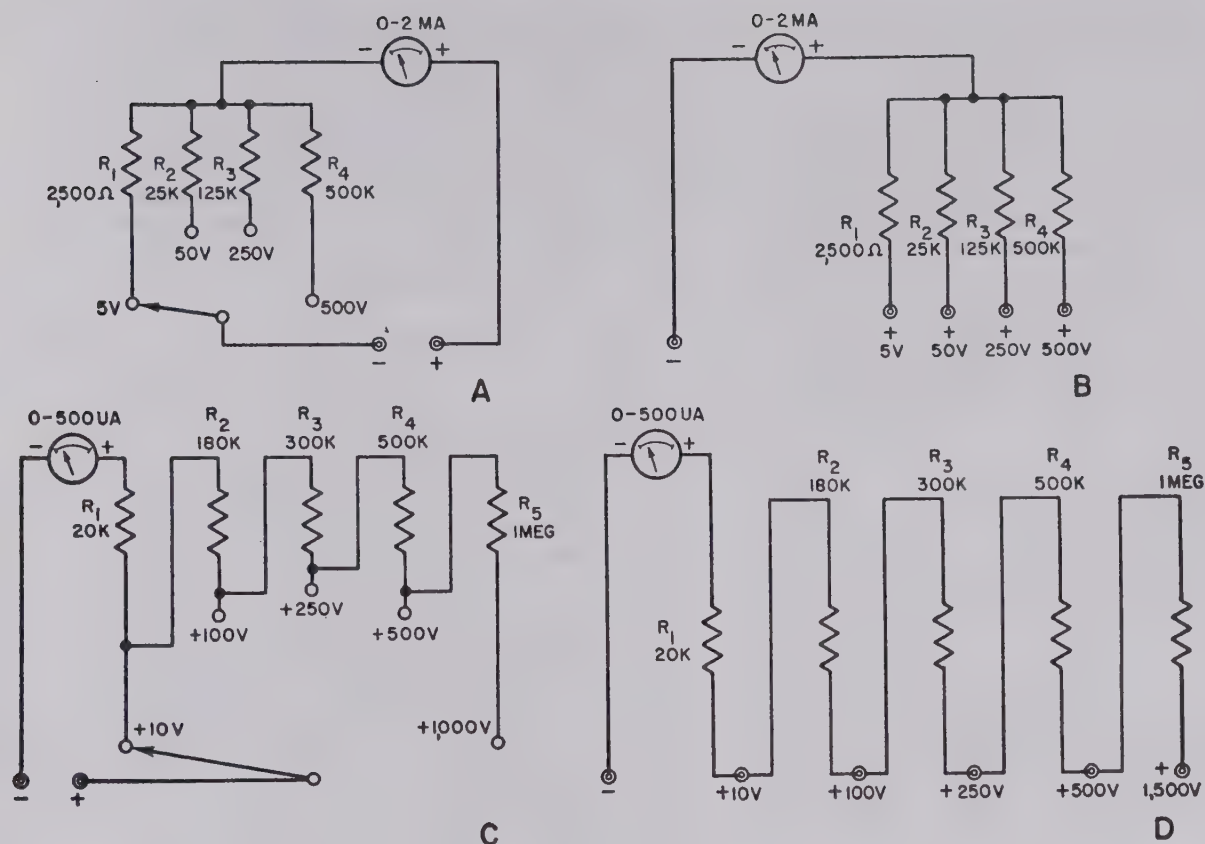

Figure 14. Different types of multirange voltmeters.
a. SEPARATE MULTIPLIERS. It is possible to have a voltmeter (fig. 14) with several ranges, by using either a switching arrangement, as in A and C, or separate pin jacks for each range, as in B and D. For example, it is desired to have a switching arrangement with four ranges and separate multipliers, using a 2-ma, 18-ohm meter movement. The ranges required are 5 volts, 50 volts, 250 volts, and 500 volts (A, fig. 14). The first step is to convert the current sensitivity into ohms per volt: Ohms-per-volt
- (1) D of figure 14 shows a series-multiplier arrangement using pin jacks. One test lead is inserted in the common pin jack (negative terminal) on all ranges. The other test lead is inserted in the pin jack for the desired voltage range. Since this is a series-multiplier arrangement, it is necessary to compute the value of the multiplier resistance for the lowest range first, or R_1 . Then the total multiplier resistance for the next higher range is found. R_1 then is subtracted from this figure, and the remainder is the value of R_2 . For example, it is desired to have a voltmeter with five ranges using a .5-ma or 500-microampere, 55-